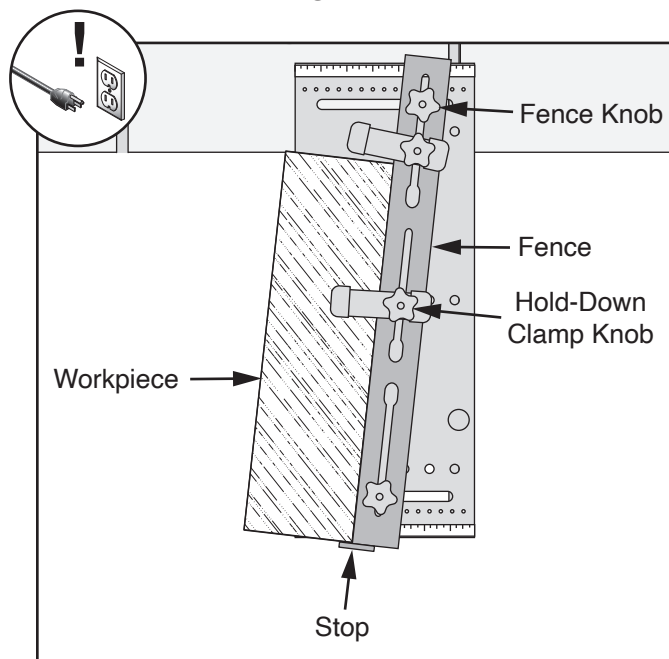

Figure 17. Workpiece against fence and stop.
2. Position jig in start position at front of table saw with miter bar in miter slot on right of blade, then loosen (2) fence and (2) hold-down clamp knobs (see **Figure 17**).
3. Place workpiece on jig against fence and stop shown in **Figure 17**.